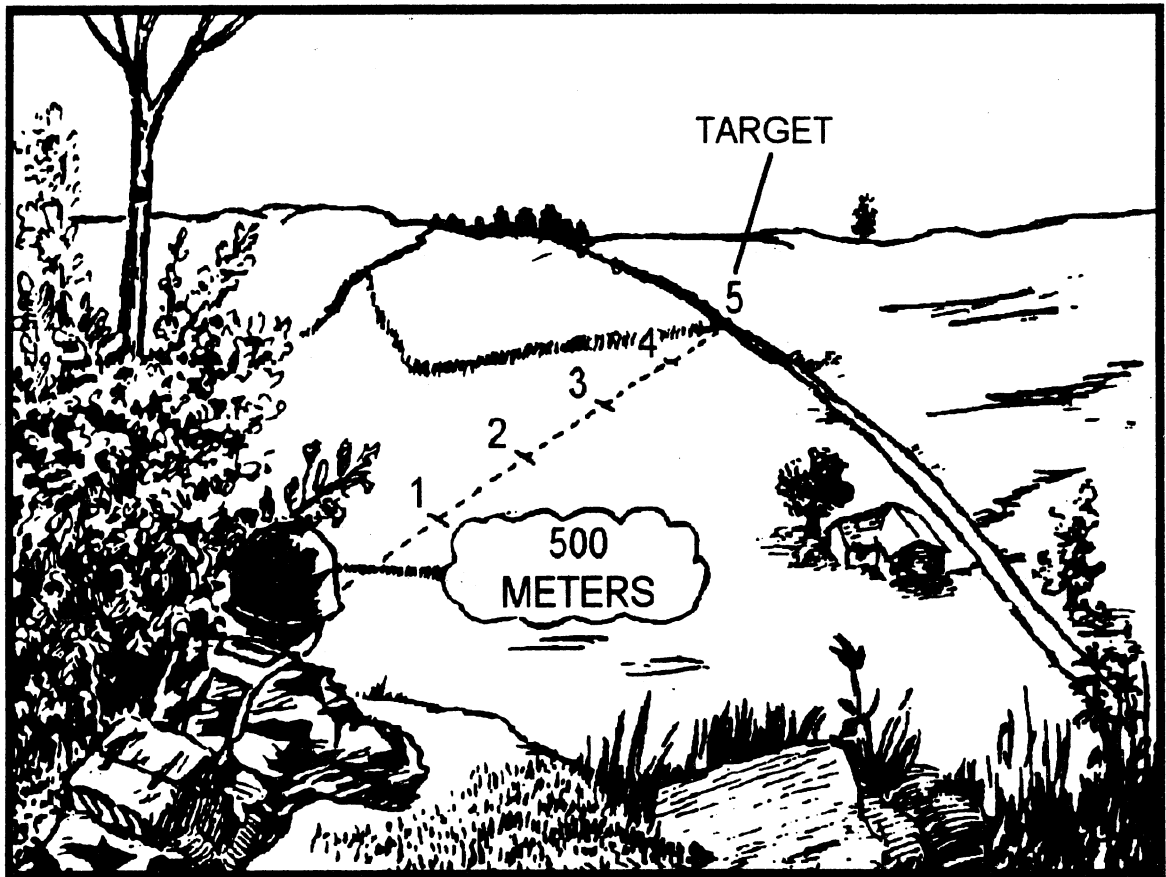

Fig 3-9. 100-meter unit of measure method.
- (1) Visualize a straight line on the ground between you and your target.
- (2) Starting from your position, estimate how many 100-meter increments (or football fields) are between you and your target on this straight line (see fig 3-9).
- (3) If a portion remains, estimate how large that portion is and add this to the number of 100-meter increments you have already visualized. This will give you a surprisingly accurate estimate of the range.